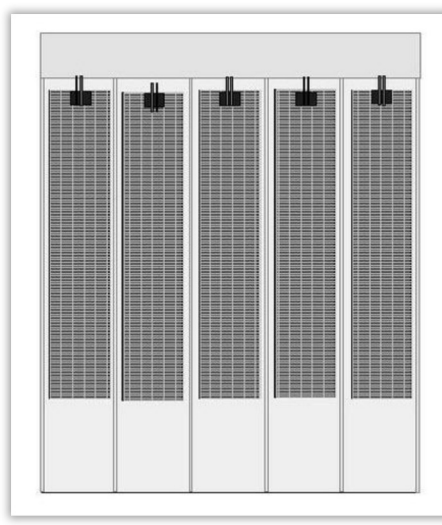

Figure 7. Ridge cap application.
- Installer must provide FLEX module spacing (152.4 mm (6") minimum) for installation of a wire management system between the ends of two FLEX modules on mid-roof wiring runs, where the J-Box and wire leads are located (**Figure 7**). Space modules far enough apart to avoid solar shading from WMS or snow guards.